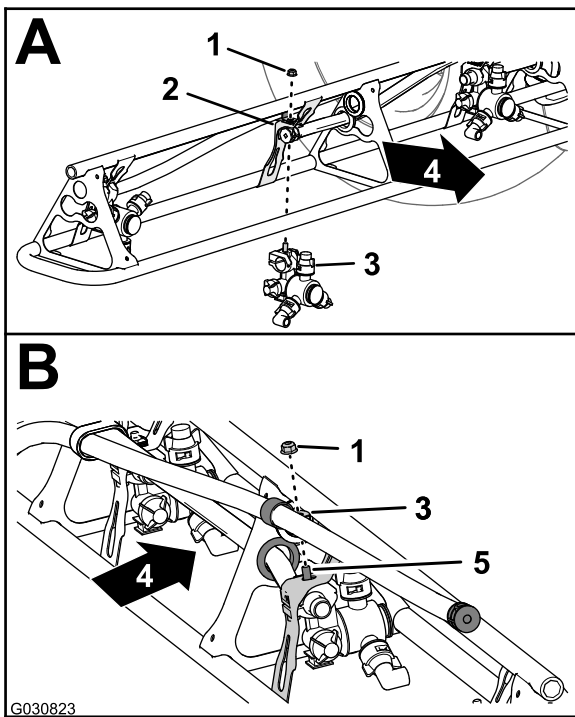

Figure 135
- At the nozzle positions 1 and 4, assemble the sprayer nozzle to the nozzle mount (A of Figure 135) with the flange locknut (5/16 inch) that you removed in step 2 of Removing the Sprayer Nozzles from the Outer-Spray Sections (page 58).
- At the nozzle positions 2 and 3, assemble the sprayer nozzle to the nozzle mount (A and B of Figure 135) with the flange locknut (5/16 inch) that you removed in step 2 of Removing the Sprayer Nozzles from the Outer-Spray Sections (page 58).